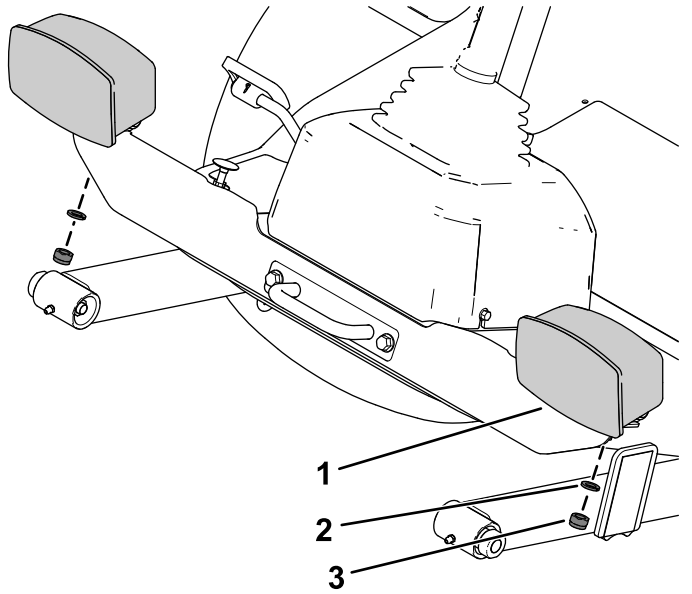

Figure 13
- Secure the left light assembly and right light assembly to the light cross mount using the lock washer and hex nut on the light assemblies (Figure 13).